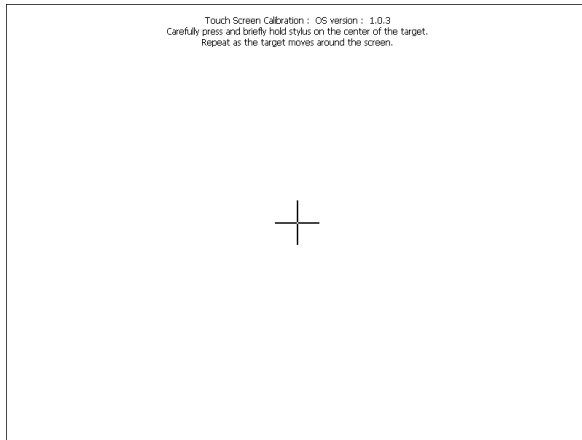

Figure 28: Touch Screen Calibration: Start
1. From the Configuration Screen, press the Touch Screen Calibration button, Figure 28 will appear.